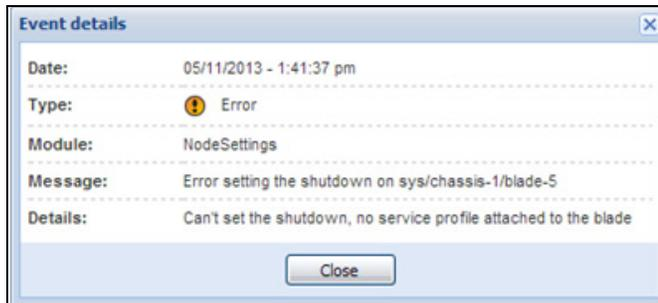

Figure 149. No Service Profile
1. You can't set a shutdown to a blade that doesn't have a service profile assigned (see Figure 149).